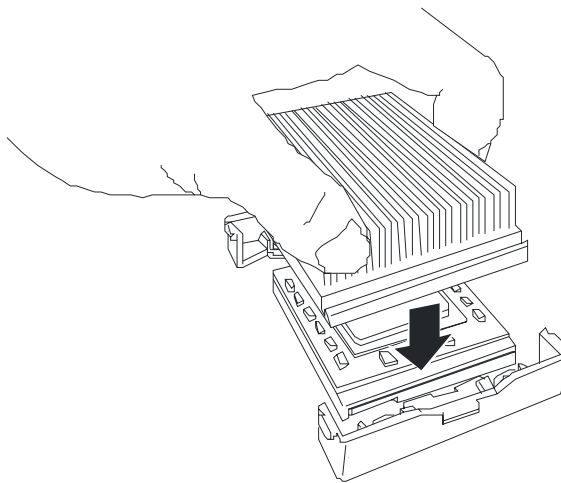

Figure 4-14. Installing the Processor Heat Sink
10. Position the heat sink on the processor. See Figure 4-14.